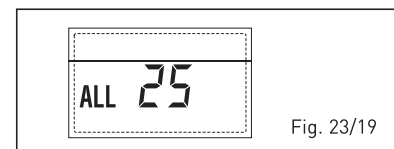

Fig. 23/19
– **ANOMALIA SONDA AUXILIAR (S3) “ALL 26”** (fig. 23/20)